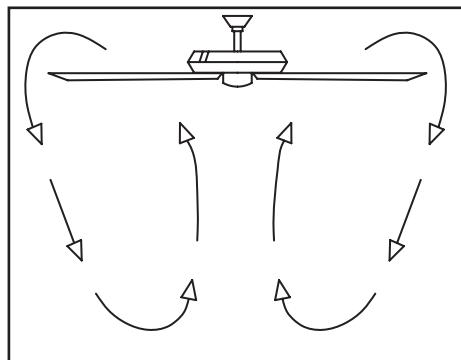

Figure 19
**Cool weather** - (Reverse) An upward air flow moves warm air off the ceiling area as shown in Figure 19. This allows you to set your heating unit on a lower setting without affecting your comfort.